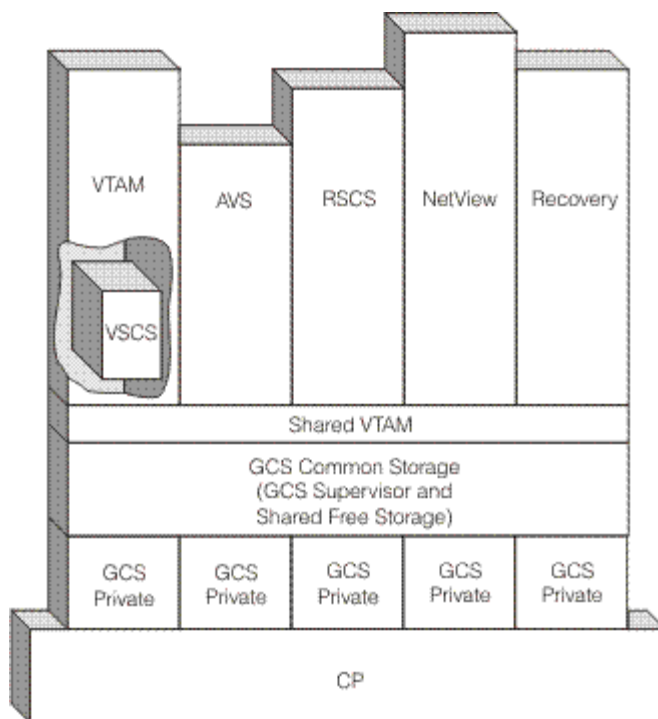

Figure 2. A Virtual Machine Group and Supported Applications
- A virtual machine supervisor. It bands many virtual machines together in a group and supervises their operations. See Figure 2 on page 2.
The specific version of VTAM designed for GCS is ACF/VTAM Version 3.3 (for z/VM). ACF/VTAM controls data flow between SNA network devices and programs running in other group machines. Part of ACF/VTAM provides a shared VTAM interface that other applications like RSCS, NCCF, and NetView pass information through. (See Figure 2 on page 2.) RSCS uses this shared VTAM interface to communicate with SNA devices; NCCF and NetView perform network management functions through it. For more information, see the *ACF/VTAM General Information (for VM)* book.
Figure 2 on page 2 shows the structure of a virtual machine group. The virtual machine group, with a built-in supervisor, supports a z/VM operating environment for programs, like VTAM, that once needed guest operating systems.